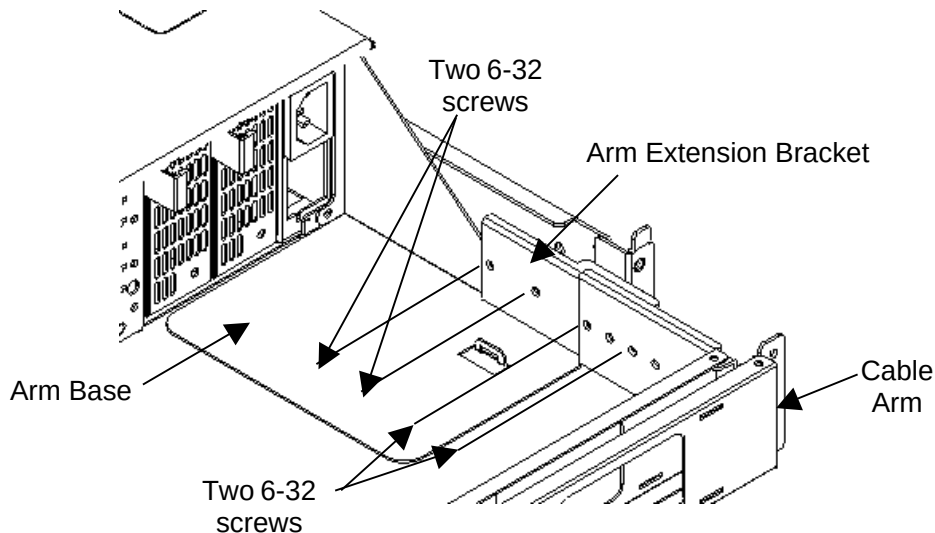

Figure 2-22. Attaching the Arm Extension Bracket to the Arm Base
2. Position the Arm Extension bracket as shown in Figure 2-22, and using two 6-32 screws attach the Arm Extension bracket to the Arm Base.